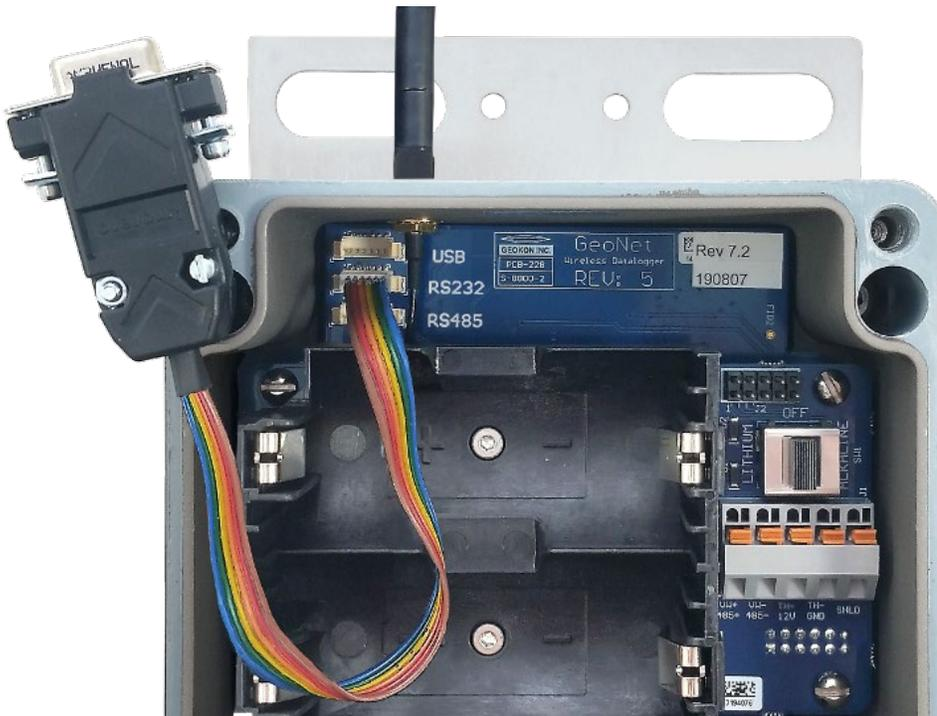

Figure 25 - RS-232 Connector Detail
- a. Connect the *B8800-5* (update cable) to the “RS232” connector on the bottom circuit board (Figure 25).